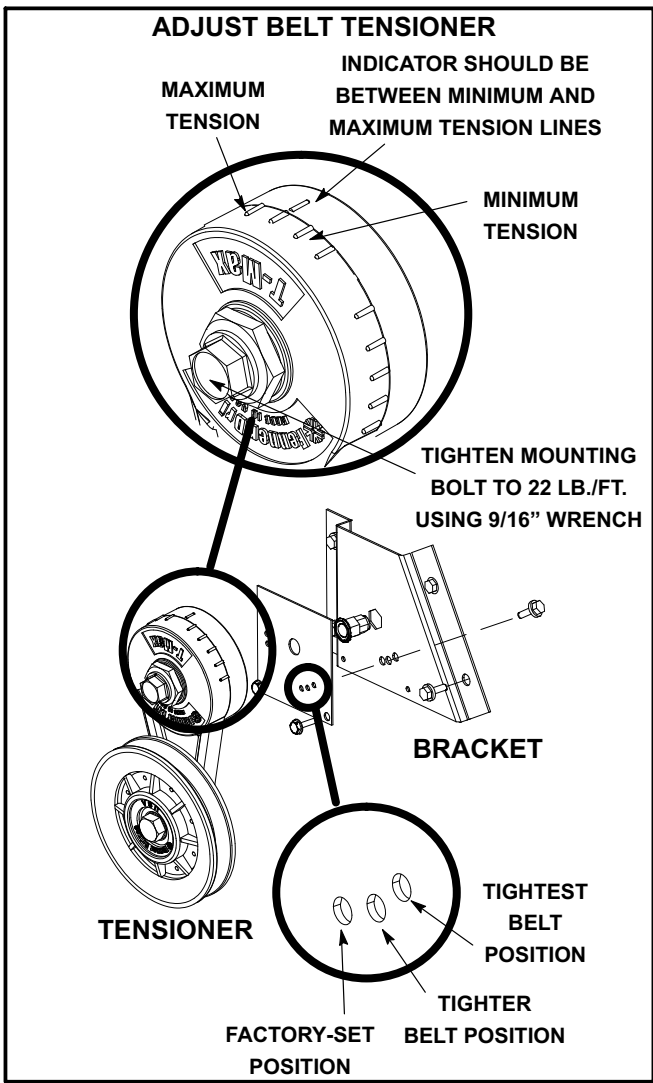

FIGURE 14
- 2- Remove bracket from blower housing. See figure 14.